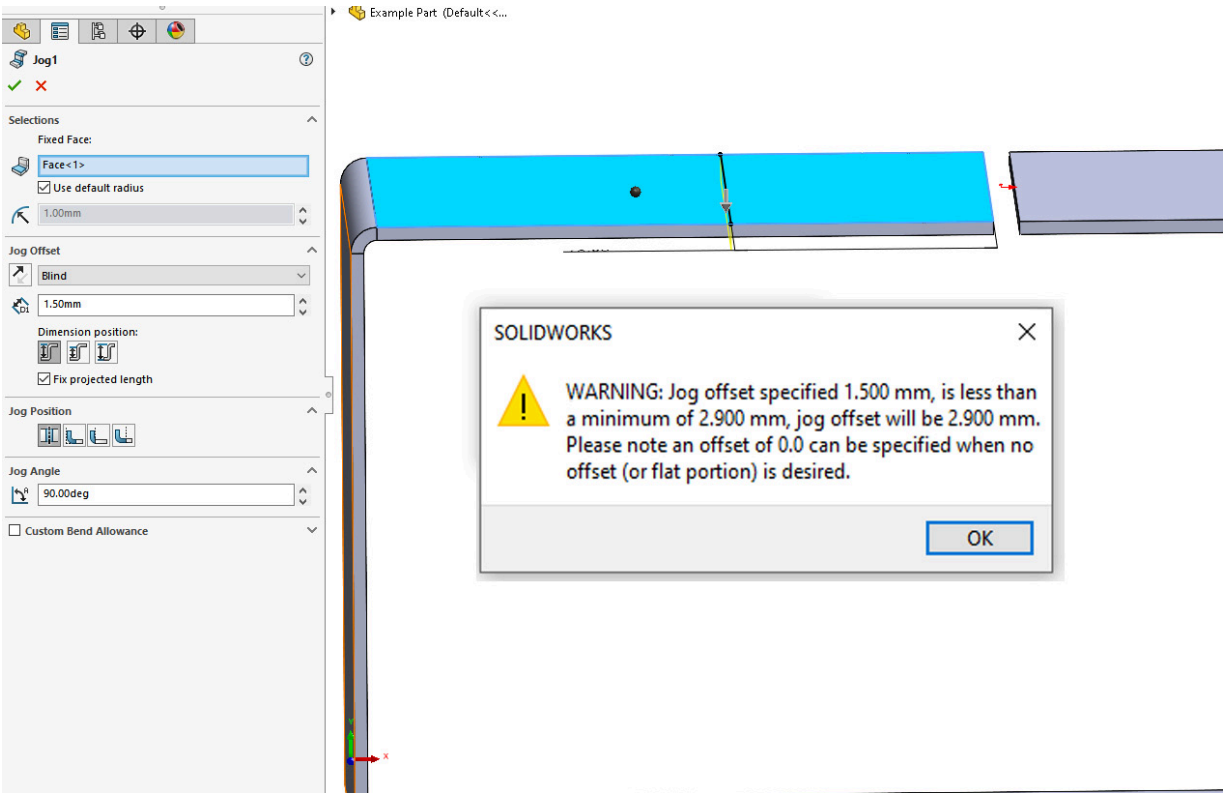

Figure 3.28: Sometimes, the desired offset distance will not be used and a warning will be displayed
9. Press **OK** to create a **Jog**. Note that you may be presented with a message (*Figure 3.28*) warning that the **Jog Offset** value is not correct. Press **OK** to create the **Jog** anyway and we will look at the issue: